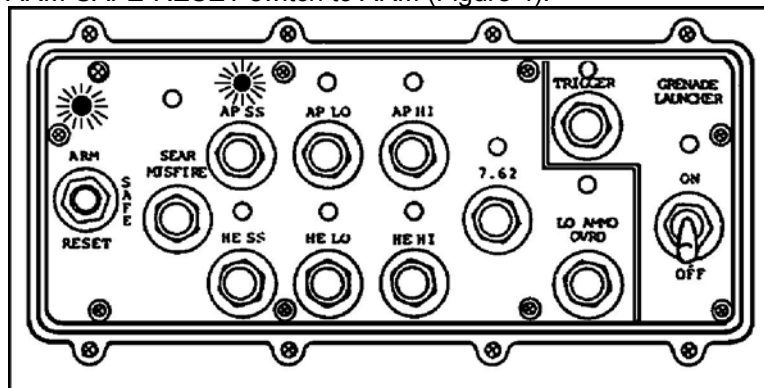

Figure 4. ARM-SAFE-RESET switch and indicator light.
- f. Move the ARM-SAFE-RESET switch to ARM (Figure 4).